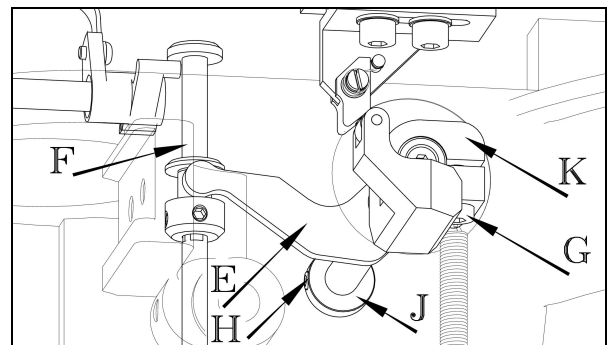

Fig 2
The trimmer lever (E) in Fig 2 should move freely with the shaft (F). Adjust as follows.
1. Loosen screw (G) . Loosen screw (H) on the collar (J).
2. Position the lever (E) on the shaft (F) such that the shaft (F) moves up and down freely without binding.
3. Push the collar (J) and the bracket (K) against the casting, . Tighen screws (G) & (H).
4. Check that the trimmer lever (E) and shaft (F) move freely.